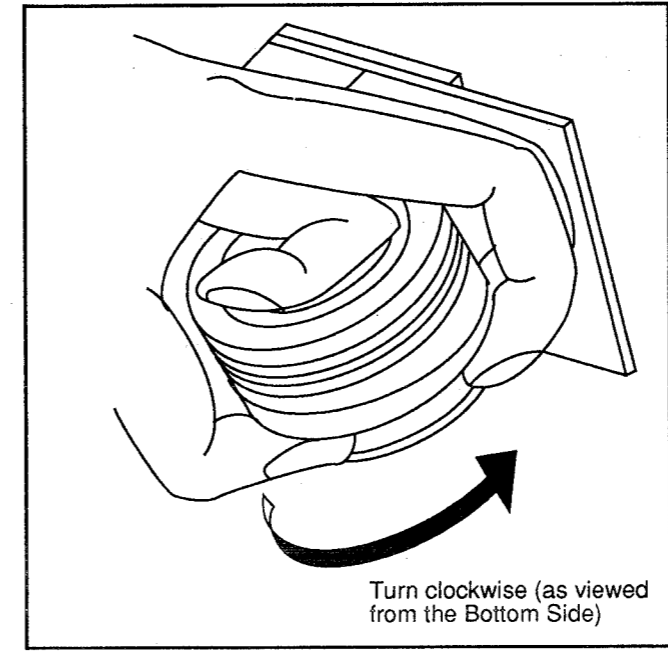

Fig. M5-2
1. Reinstall the new D.D. Cylinder Unit so that the 2 projections on the Cylinder Base meet the 2 holes on the lower surface of the D.D. Cylinder. Then fit the new D.D. Cylinder Unit to the chassis by turning it (refer to Fig. M5-2). Hold the D.D. Cylinder with extreme care so as not to touch the Heads or the tape path on the Cylinder. If any of these parts are touched, then clean them with a deerskin swab (Head Cleaning Stick) saturated with Ethanol.